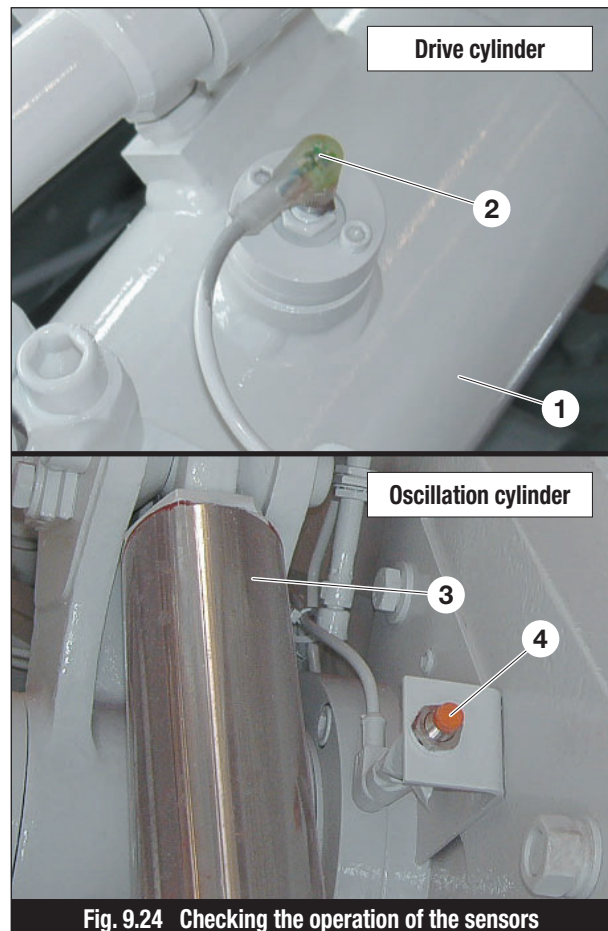

Fig. 9.24 Checking the operation of the sensors
2. Pull the right hand motor (4) out approx. 10 mm and put the agitator shaft (3) to one side.
3. Remove the retaining ring (5), pull the left and right hand motors (4) out and put them to one side. Take care not to kink the hydraulic hoses.
4. Remove the screws (6) and take out the spacer plates with the seals (7).
5. Exchange the seals (7) and refit them. The gap between the seals must be completely filled with grease.
6. Reassemble the motors (4) and shafts (3) together with the agitator blades in the reverse sequence to removal (see Fig. 9.24).